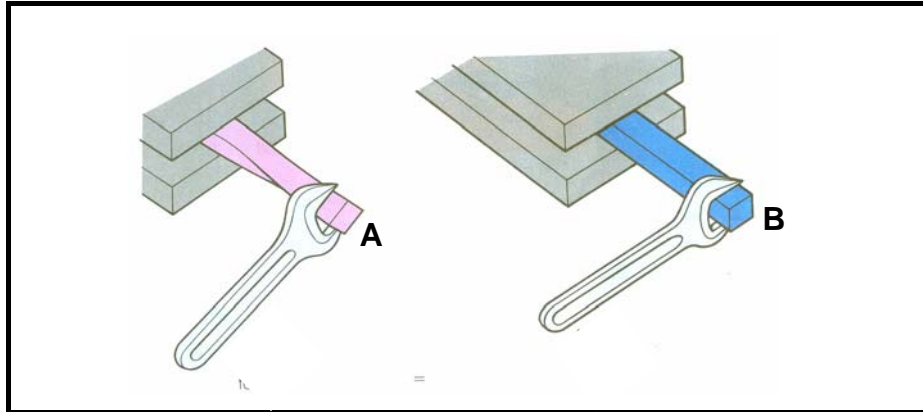

FIGURE 3.1
3.2 Two different materials A and B are shown in FIGURE 3.1. Both are subjected to the same force that causes torsional stress in the material.